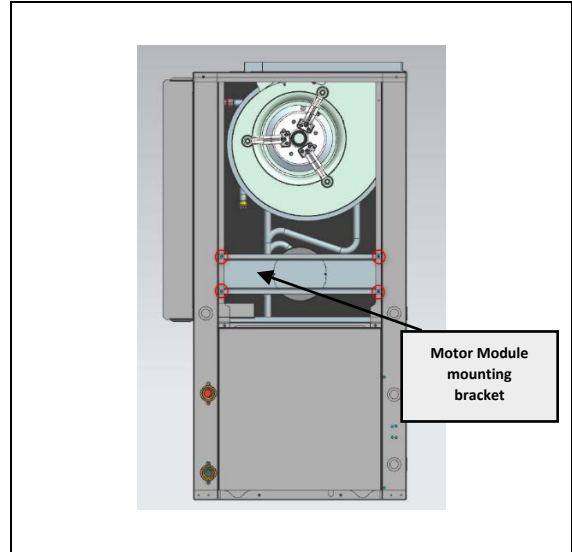

Fig. 2 Mounting Bracket Screw Locations (vertical unit configuration shown)
**Step 3.** Remove the Motor Module mounting bracket with module and place on the divider (vertical configuration) or unit base (horizontal configuration). (See Fig. 2)